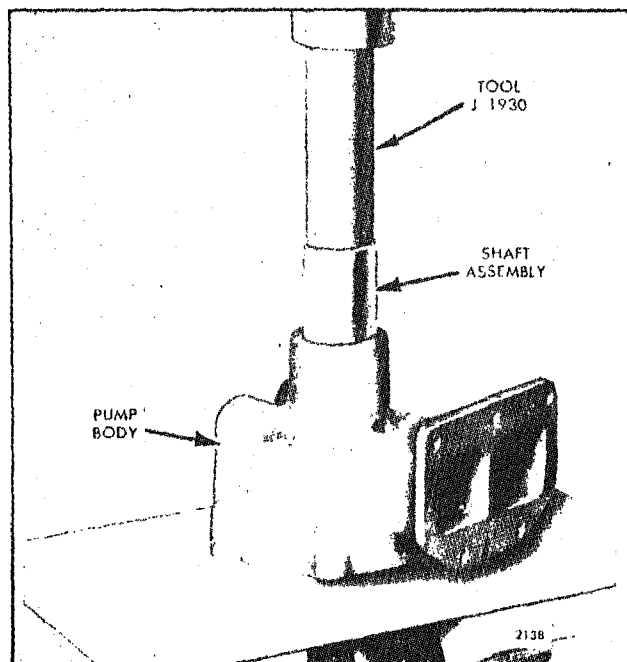

Fig. 5 - Pressing Shaft Assembly into Water Pump
1. Use installer J 1930 to apply pressure to the outer race of the bearing as shown in Fig. 5 and press the shaft and bearing assembly into the pump body until the outer race of the bearing is flush with the outer face of the body.